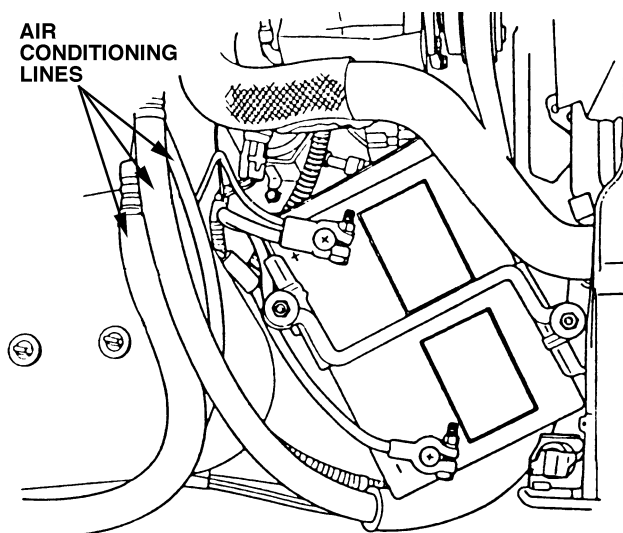

Figure 14.
30. Reconnect the battery terminals, making sure the cables do not contact the hood or air conditioning lines (Figure 14).